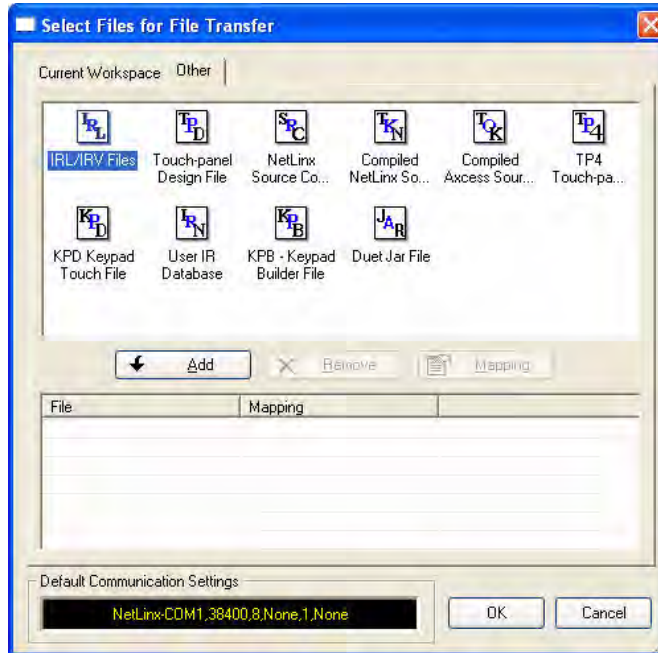

FIG. 56 Select Files for File Transfer dialog (NetLinx Studio)
2. Click the **Add** command button to open the *Select Files For File Transfer* dialog, and open the **Other** tab (FIG. 56).